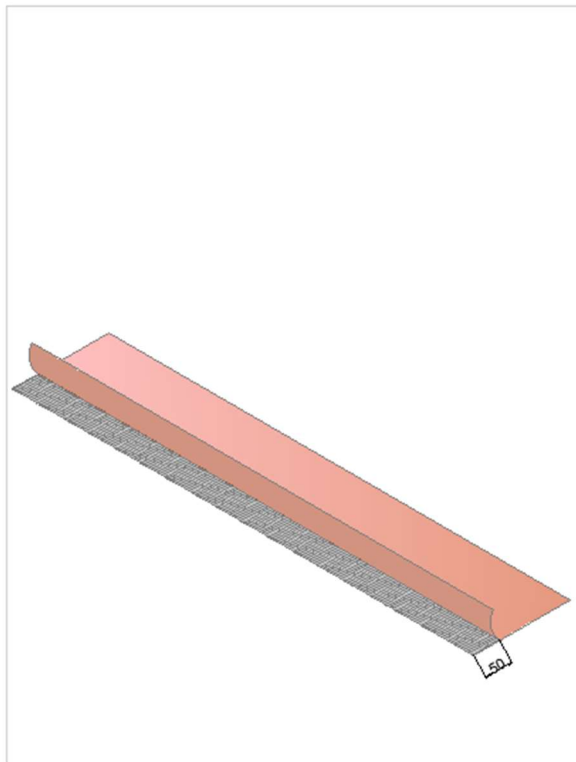

Figure 3
- Once happy with the positioning, peel back the release liner on one long edge by up to 50 mm (Figure 3).